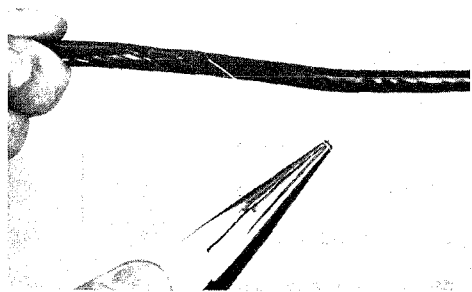

Fig. 2 - Removing Outer Jacket
4.05 Grasp the slitting cord firmly between the jaws of the long nose pliers. Pull the cord with the long nose pliers and slit the jacket for approximately 5 inches from the end of the wire as shown in Fig. 2. Trim off the slit portion of the jacket using the splicer's scissors.